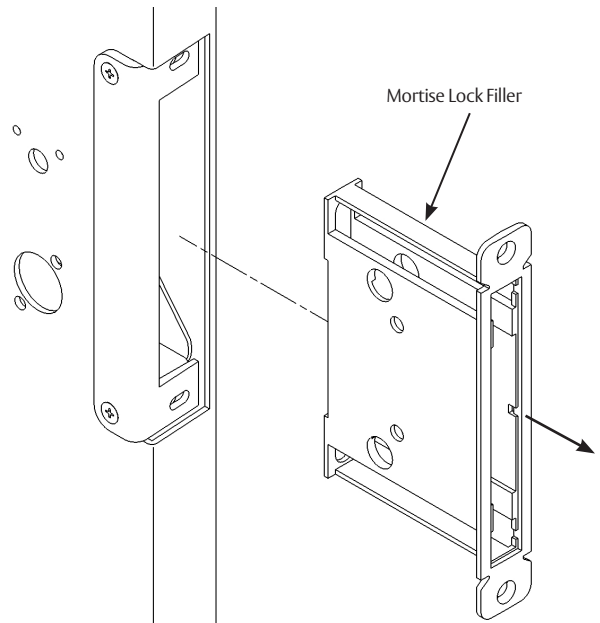

Figure 24
2. Remove mortise lock filler and discard. (Figure 24)